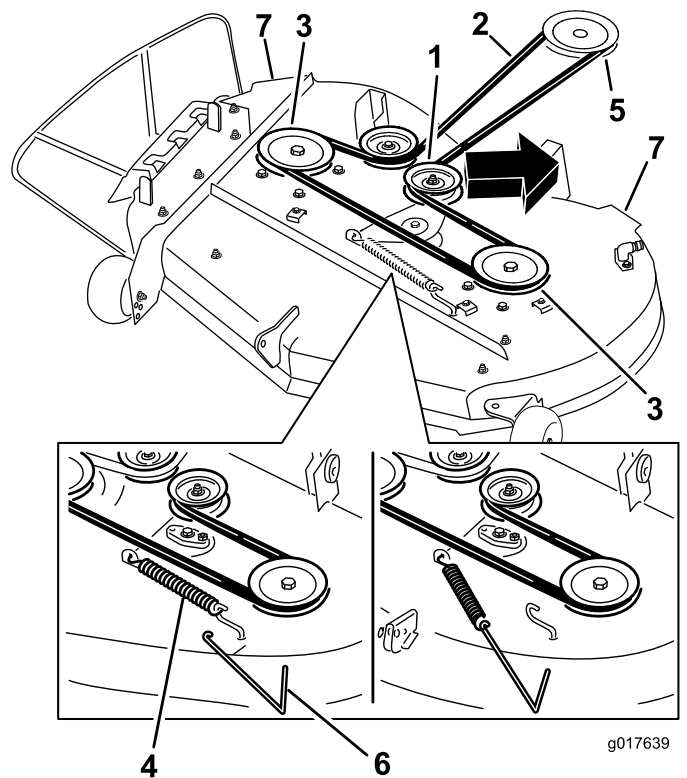

Figure 71
5. Using a spring-removal tool (Toro Part No. 92-5771), remove the idler spring from the deck hook to remove tension on the idler pulley, and roll the belt off the pulleys (Figure 71).
- Route the new belt around the engine pulley and mower pulleys (Figure 71).
- Using a spring-removal tool, install the idler spring over the deck hook, and place tension on the idler pulley and mower belt (Figure 71).